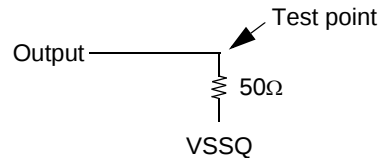

Figure 1 : Pullup slew rate test load
- a. Pullup slew rate is characterized under the test conditions as shown in Figure 1.
Figure 1 shows a technical drawing of a mechanical part with dimensions. The dimensions are given in inches, and the tolerance is shown in parentheses.